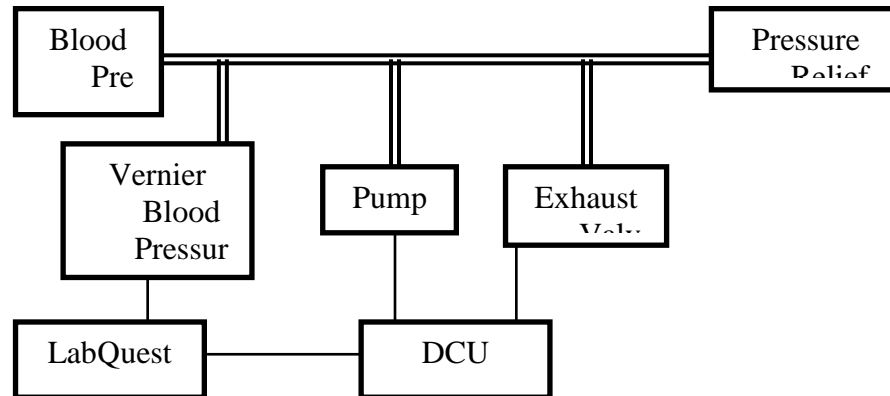

Figure 1
3. Using cable ties or glue, mount the components on a board. Using aquarium tubing and Luer Lock connectors as needed, connect the Blood Pressure Sensor to the other components (see Figure 1). In the figure, double lines represent pneumatic tubing connection and solid lines represent electrical connections.